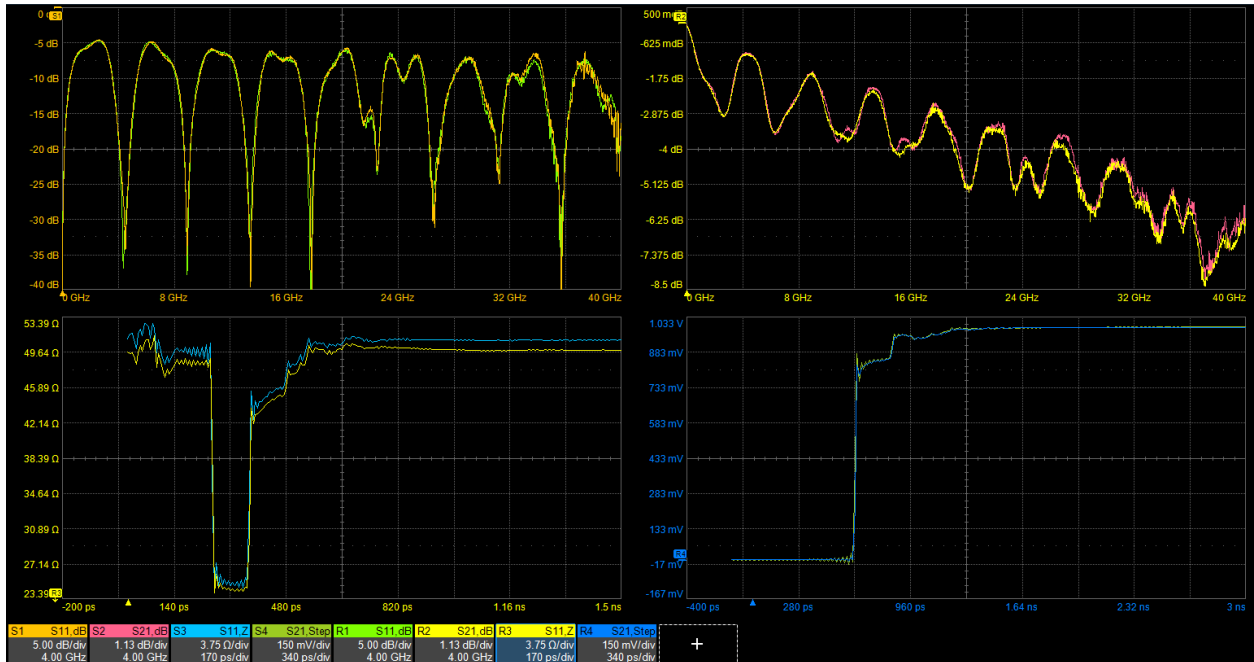

Figure 18: De-embedded DUT vs. expected DUT
8. Import the de-embedded DUT+Fixture measurement from Step 5 and compare it to the direct DUT measurement from Step 7. They should be reasonably matched, as in Figure 18.
Figure 18 shows the de-embedded DUT measurements compared to the direct DUT measurements. The S-traces are those of the de-embedded DUT, and the R-traces are those of the direct DUT measurement.